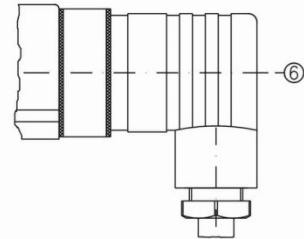

Fig. 12
- Plug the cable socket ② on the connector ① and tighten the central screw ⑥ (→ Fig. 12).